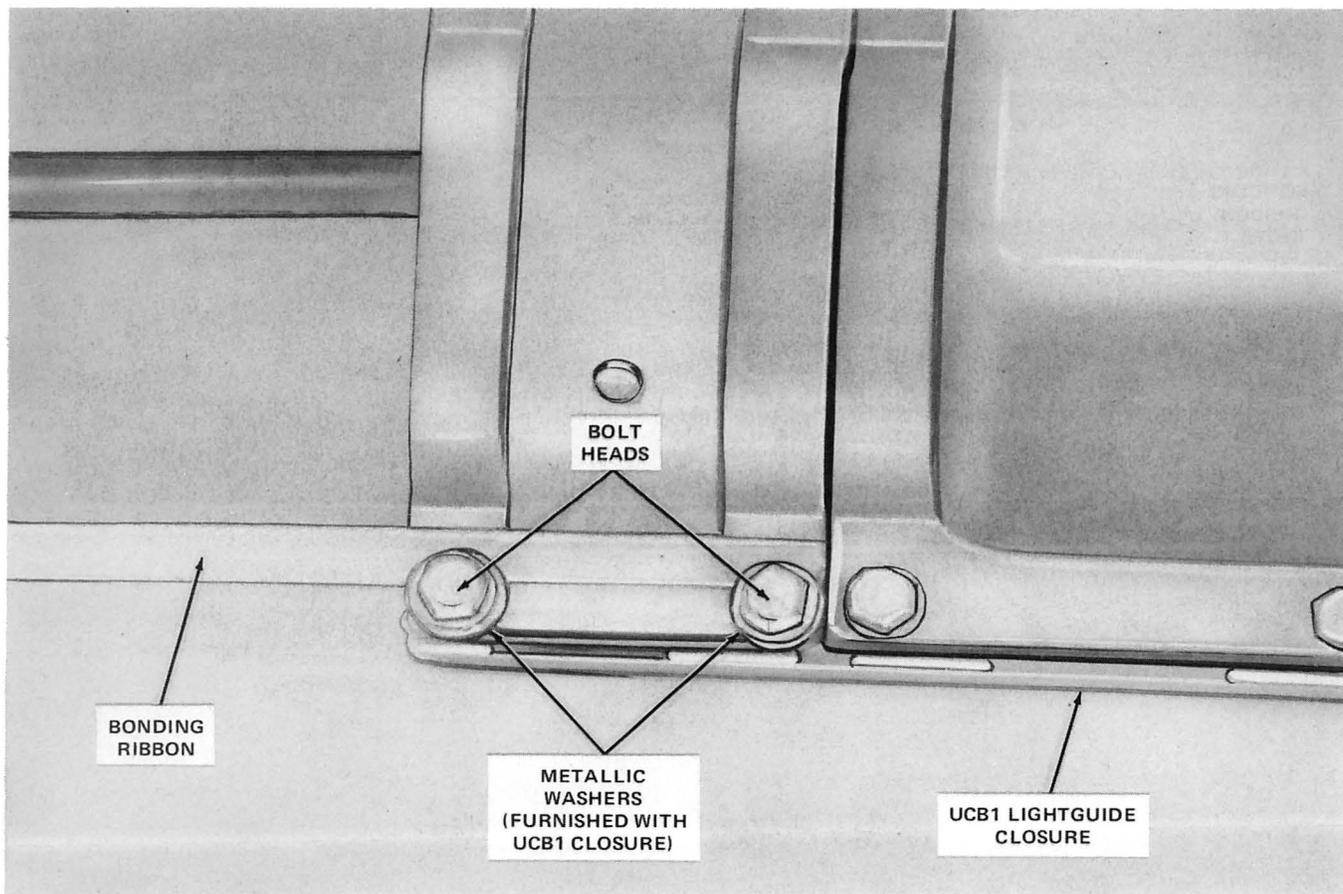

Fig. 95—Grounding the Closure
12.01 Attach the appropriate length of bonding ribbon to the UCB1 lightguide closure using the washers furnished with the closure. Place the ribbon under the washers and bolt heads, then tighten the bolts. The ribbon can be placed at any of the four corners. An installed bonding ribbon is shown in Fig. 95.